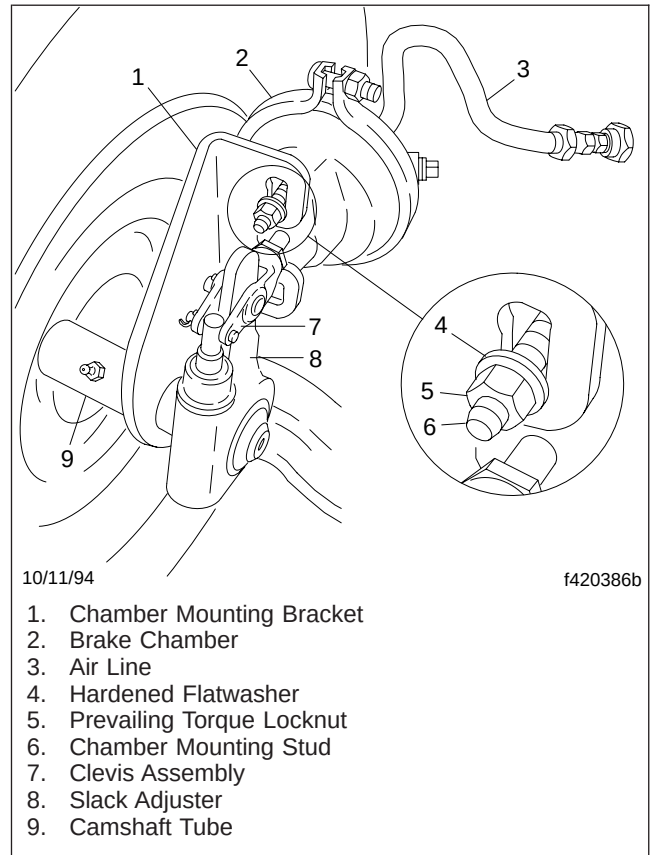

Fig. 1, Brake Chamber Mounting
2. Attach the brake chamber to the mounting bracket, using a hardened flatwasher and prevailing torque locknut. See Fig. 1.